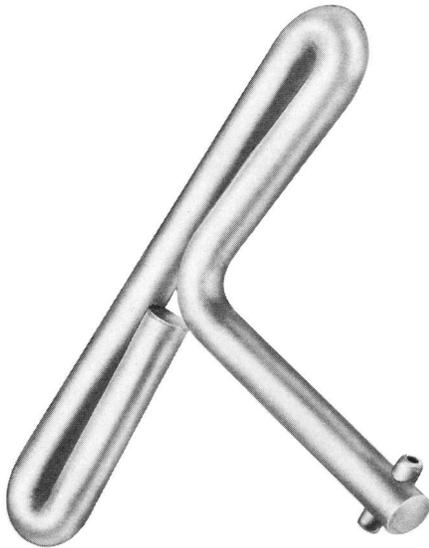

Fig. 2 — 719A Tool
- (1) Unlock 29A lock.
- (2) Release locking mechanism with 719A tool (Fig. 2) by turning tool 1/8-turn counter-clockwise.